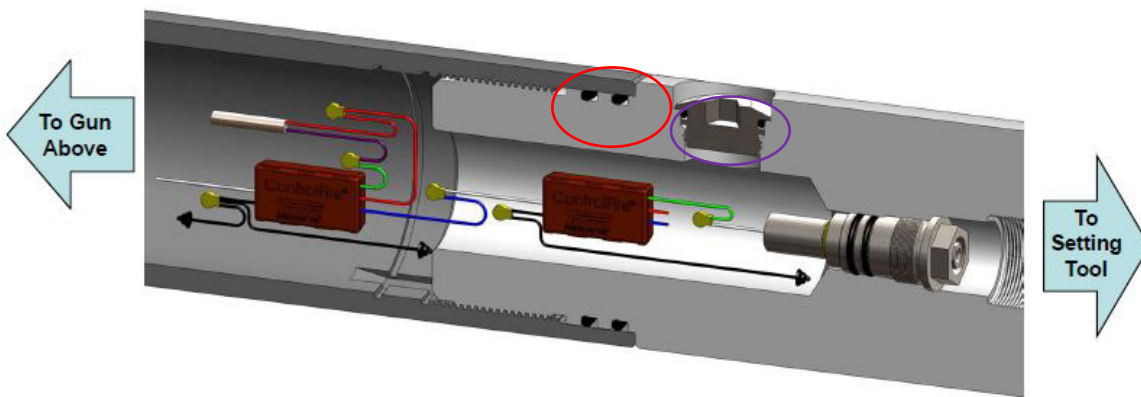

Figure 49
bottom gun and plug-shoot adapter. Connect the white wire from the ControlFire® switch body to the live wire coming from the bottom gun. Connect the ground wire from the bottom gun to the black wire coming from the ControlFire® switch body. Connect the blue wire coming from the ControlFire® switch body to the white wire coming from the body of the additional ControlFire® switch (Shown circled in red in Figure 49), which is dedicated to the igniter for setting a plug. Ground the black wire coming from the additional ControlFire® switch body to the same ground as that of the ControlFire® switch above or to the ground coming from the adapter below. Figure 49 shows a diagram of the proper wiring for plug-shoot applications.
- **Connecting a bottom gun to a plug-shoot adapter:** There must be a bulk head pressure seal between the bottom gun and the firing head of the setting tool. Titan EBFire® plug-shoot adapters provide such a feature. Connect the green wire from the last ControlFire® switch designated for the igniter to the live through wire which connects the bulk head of the plug-shoot adapter to the setting tool firing head as shown circled in purple in Figure 49. Leave the blue and red wires of the last ControlFire® switch un-terminated as shown circled in purple in Figure 49. **Do not attach setting tool firing head until ready to arm gun string.**
- **Arming a bottom gun (with plug):** **THERE SHOULD BE TWO ControlFire® SWITCHES BELOW THE BOTTOM GUN: ONE FOR THE BOTTOM GUN AND ONE FOR THE IGNITER TO THE SETTING TOOL.** Secure detonator body into an approved explosives safety tube. Connect one of the detonator wires to the red wire of the ControlFire® switch which is directly attached to the bottom gun. Connect the other wire of the detonator to the green wire of the ControlFire® switch which is directly attached to the bottom gun. Remove detonator body from the explosives safety tube. Attach detonator to detonating cord coming from the above gun. The green wire from the additional ControlFire® switch (no detonator attached) should be connected to the live through wire which connects the bulk head of the adapter to the setting tool firing head as shown in Figure 49. Leave the blue and red wires of the last ControlFire® switch un-terminated as shown circled in purple in Figure 49. Attach the setting tool firing head which contains a compatible igniter. Be careful not to pinch wires.